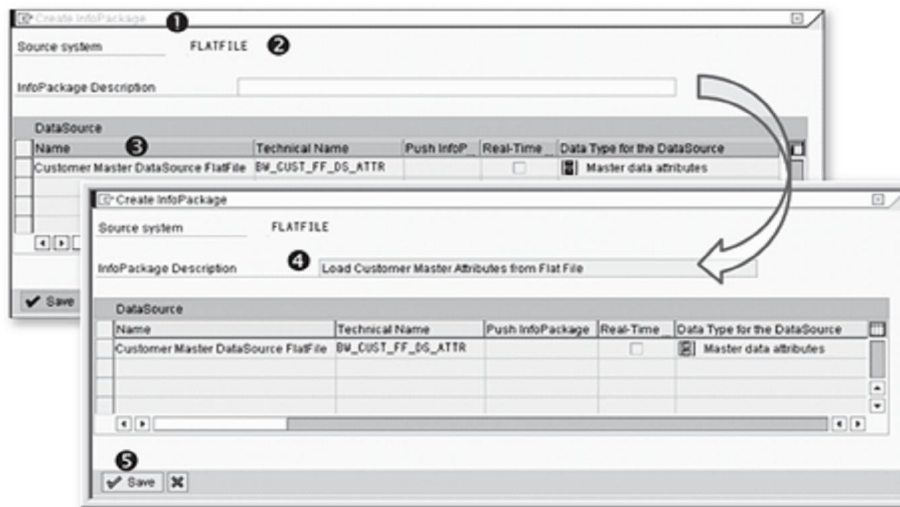

Figure 7.31 Entering an InfoPackage Description
Open the context menu, and select Create InfoPackage (❷). This action results in the Create InfoPackage screen (❶ of Figure 7.31), which also displays the source system (❷) and DataSource (❸) under which the InfoPackage is created. Enter the description (❹), and click on the Save icon (❺).